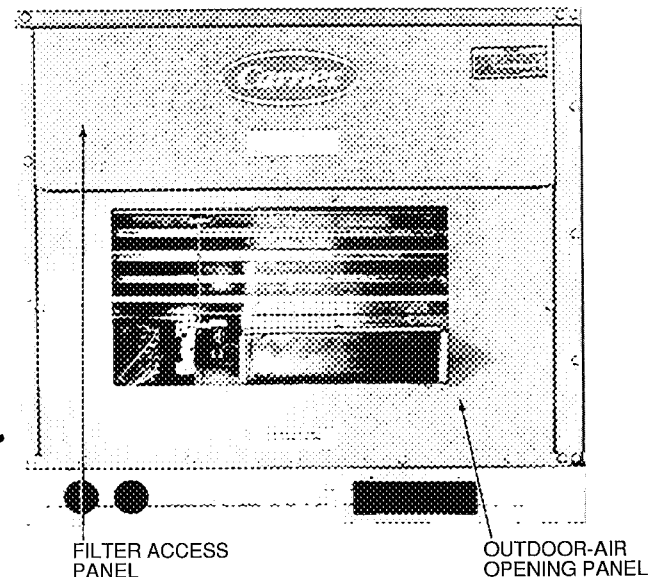

Fig. 26 — Panels Reinstalled on Unit
7. Replace outdoor-air opening panel using screws from Step 2. Replace filter access panel. Ensure the filter access panel slides along the tracks and is securely engaged. See Fig. 26.